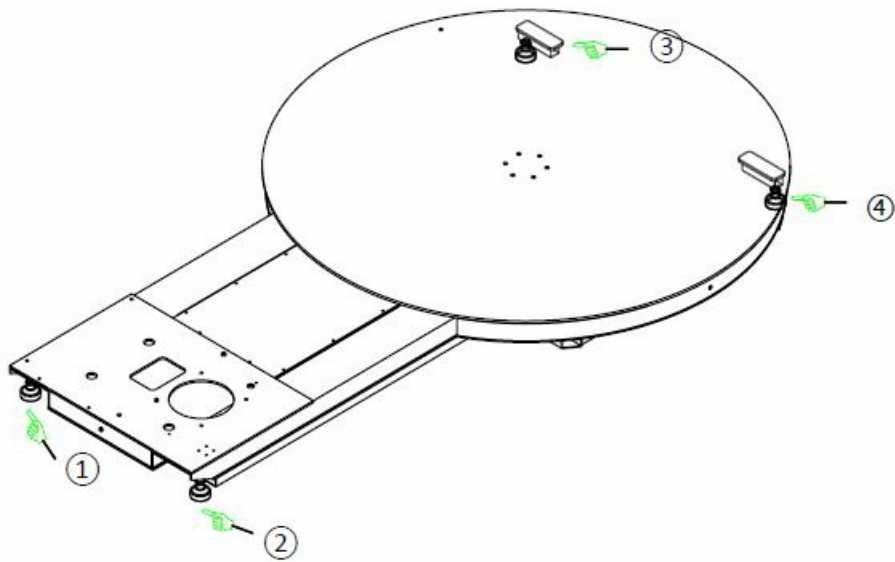

Figure 3-1
2. Put table base on the floor, calibrate the bolts for 4 gravity sensors. (See Figure 3-1)